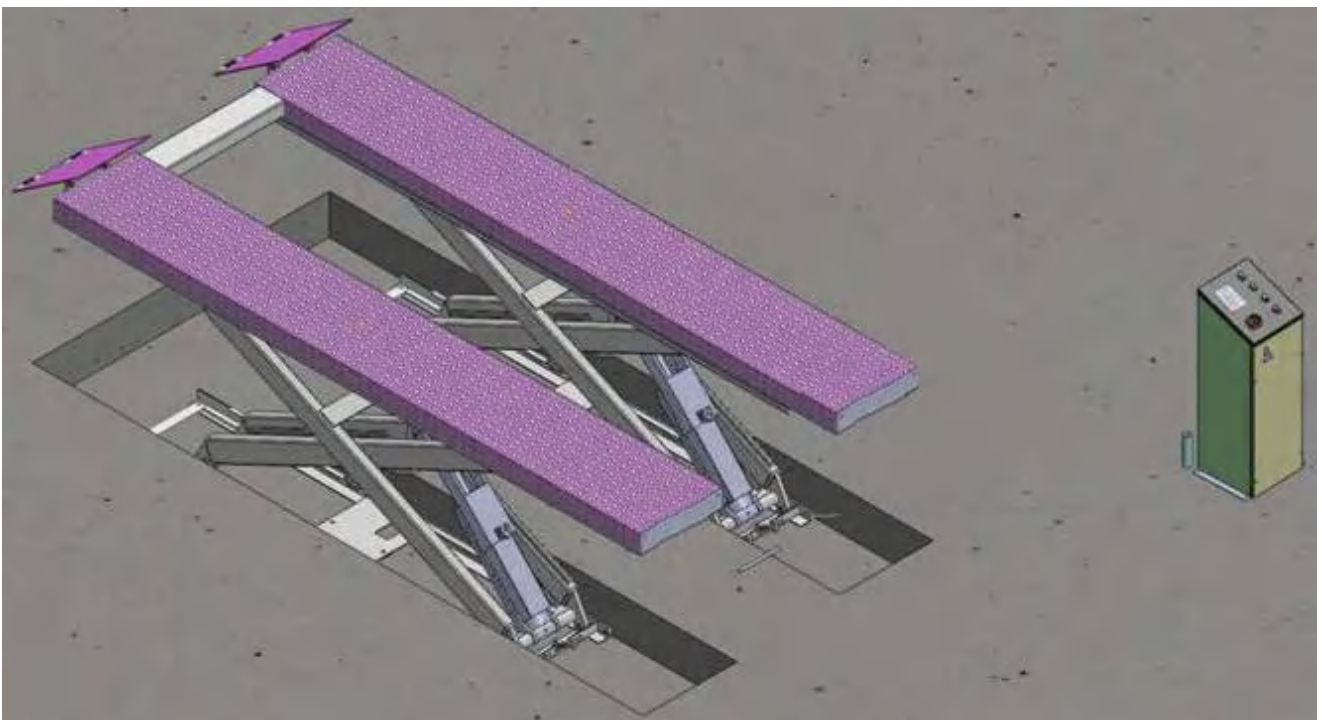

Fig. 8
2.2 Illustration of scissors lift AX-12 with flush mount installation (Fig.8).